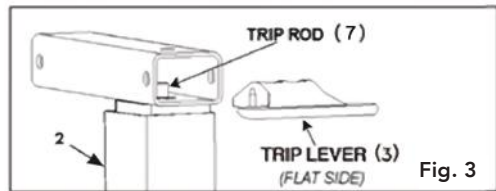

Fig. 3
2. Take the Column Assembly (2) and place Release Handle (3) on top of Trip Rod (7) which needs to be inside the Column Assembly before it is secured with Bolt and Nut (4). See Fig. 3.